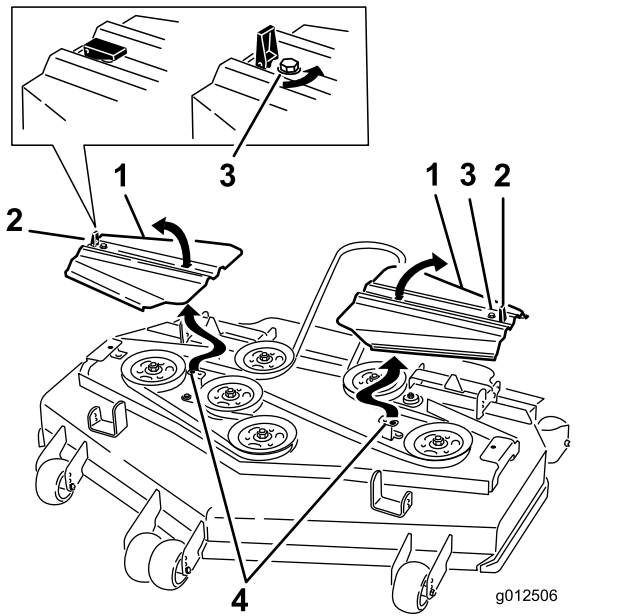

Figure 86
14. Install the belt covers with the tabs in the slots. Install the screws and close the latches (Figure 86).